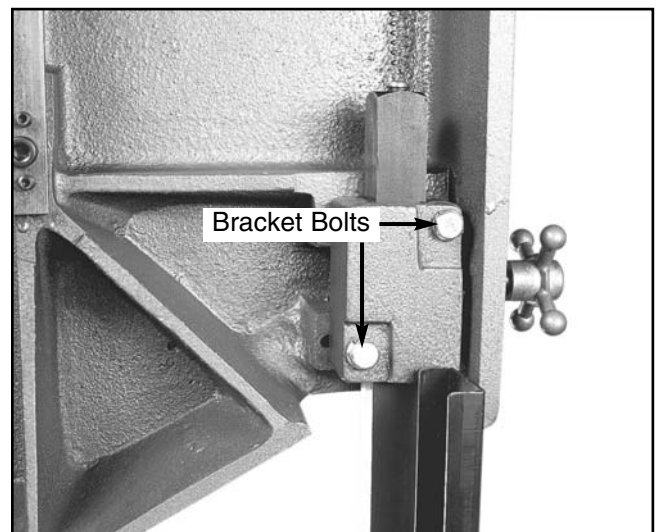

Figure 25A. Location of bracket bolts.
1. Loosen the two bracket bolts (shown in **Figure 25A**) securing the guide post bracket to the body casting.